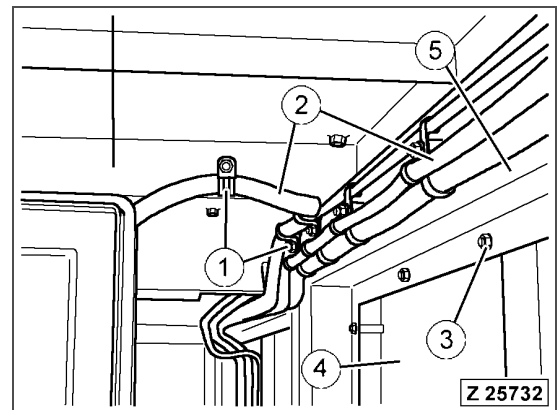

Fig. 3-4
- Open the cable brackets (Fig. 3-4, Pos. 1) and clear all wiring harnesses (Fig. 3-4, Pos. 2) from the roof frame (Fig. 3-4, Pos. 5).
- Remove nuts (Fig. 3-4, Pos. 3) and bolts at the top row of all wall plates (Fig. 3-4, Pos. 4) to clear the roof frame (Fig. 3-4, Pos. 5) from the walls of the engine housing.